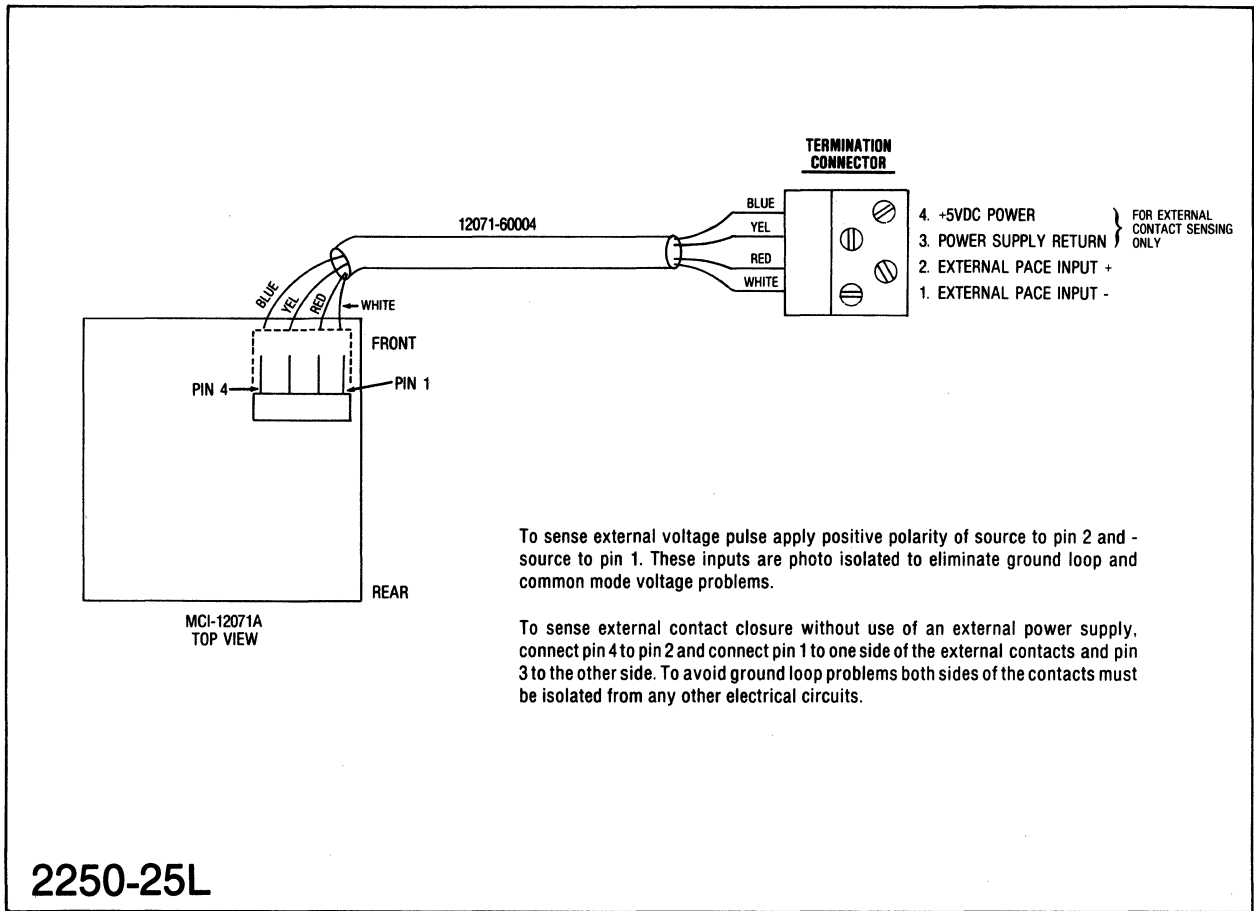

Figure 2-16. External Pace Input Connections
- d. Connect the External Pace Input cable (part number 12071-60004) to the J2 edge connector of the MCI card. Check the polarity of the cable when installing. This is done by verifying that the cable connector side labeled "CARD SIDE" faces the side of the MCI card which contains components. External pace input connections are shown in figure 2-16.